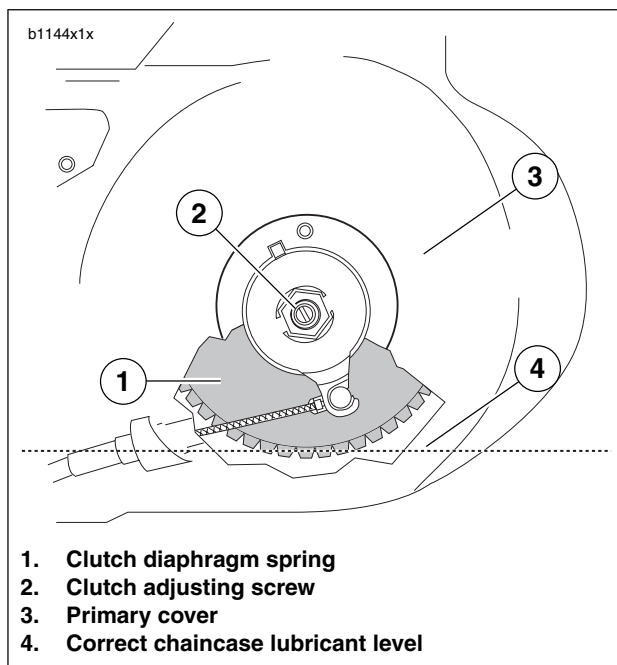

Figure 1-21. Fluid Level
6. See Figure 1-21. Add SPORT-TRANS FLUID (Part No. 99896-88 quart size; Part No. 99895-88 gallon size) as required until fluid level (3) is even with bottom of clutch diaphragm spring (2).